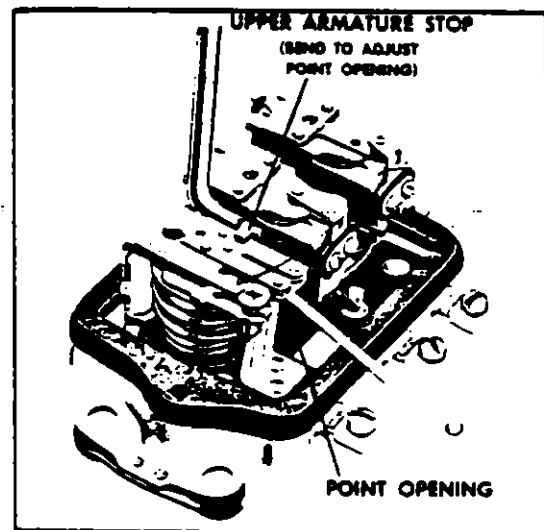

FIGURE 9-10. CUTOUT RELAY POINT OPENING CHECK AND ADJUSTMENT
b. Point Opening - Check point opening and adjust by bending the upper armature stop (Figure 9-10).